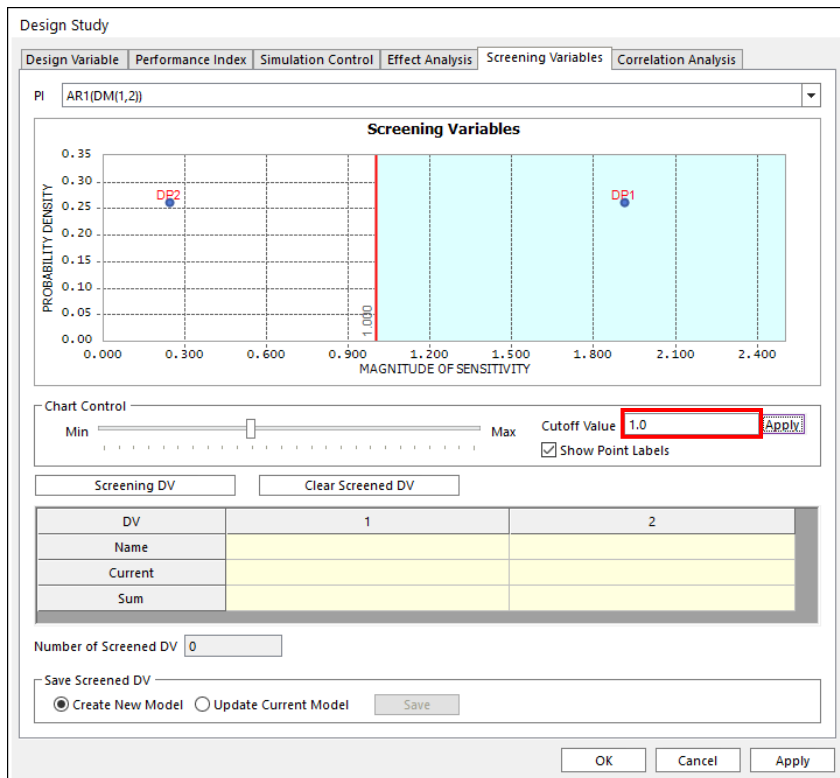
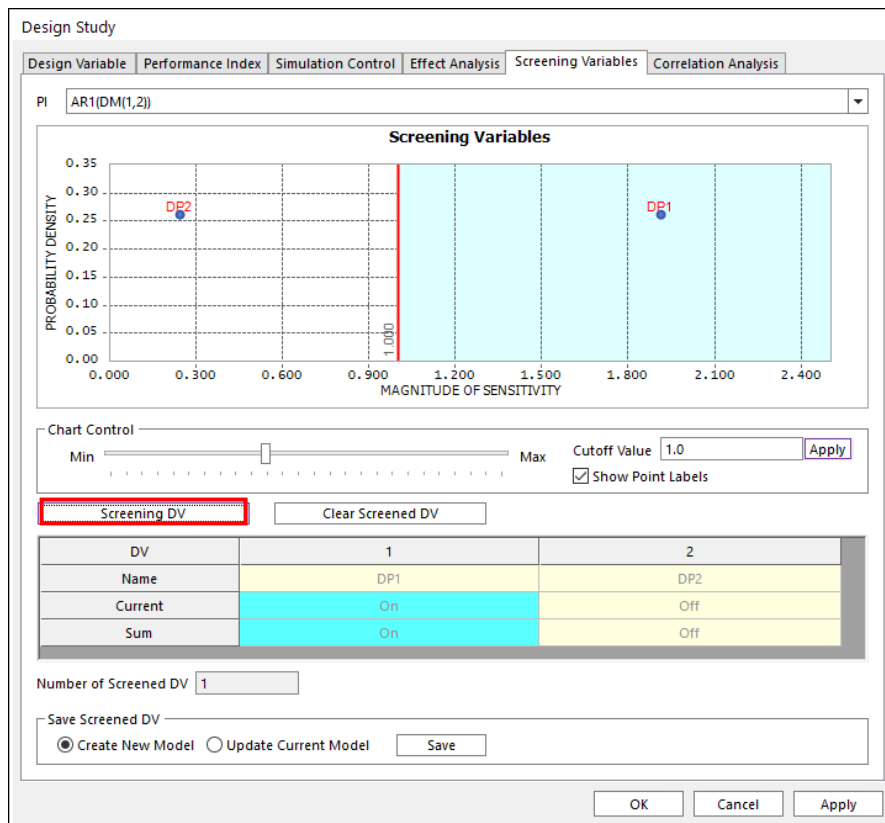

Figure A-4-12 Defining the cutoff value for screening variables
Figure A-4-13 Screened result for the first performance index
- Define the cutoff values as 1.0 and push **Apply** button. You can see Figure A-4-12. Then, push the **Screening DV** button. Figure A-4-13 shows the screening result. It shows that design variable DV1 (or DP1) is more effective than DV2.